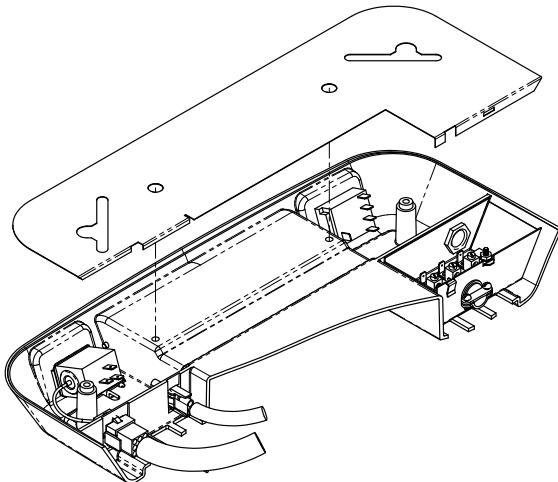

FIGURE 7
- D. Plug the roof top air conditioner electrical conduit into the 9 position receptacle located in the thermostat side of the ceiling assembly. If installing an Electric Heating Element, plug the heater cord into the 2 position receptacle (See Figure 7).
- G. Place the metal control box shield over the thermostat, switch and field wiring boxes. Make certain that all wires are pushed into the control boxes or laying in the wireway between the thermostat and switch boxes and will not be pinched by the control box shield. Control box shield is properly installed when the two holes in the shield are aligned with the two screw holes in the ceiling assembly chute (See Figure 7).
- I. The ceiling assembly shroud is curved to contour to a crowned ceiling. If installation is to a flat ceiling and gaps are present on the sides of the shroud, insert the four optional 3/4 inch screws (provided) through the mounting posts and secure them to the mounting frame above (See Figure 7, 8 & 9 for screw locations).